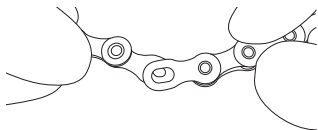

Fig.12
- Remove the C-Link™ from the inner and outer sides (Fig. 12).